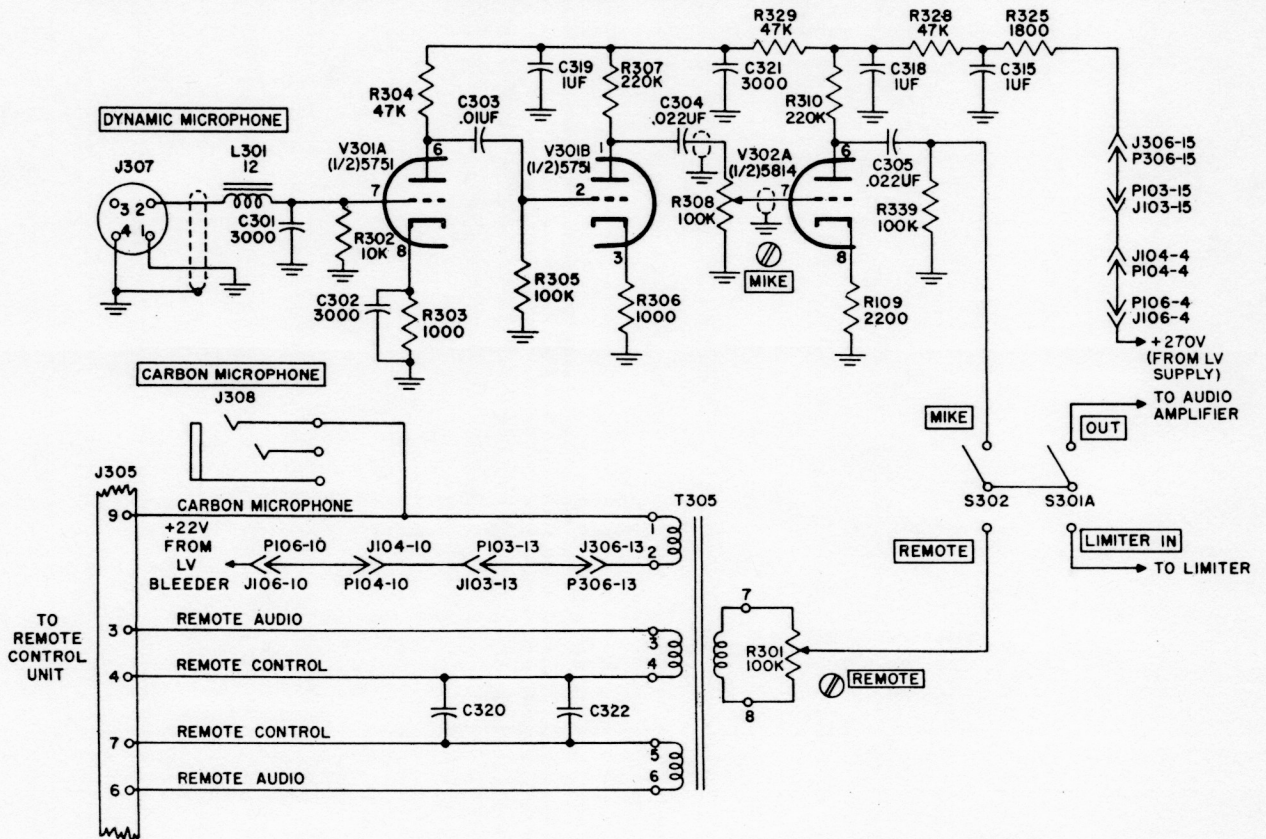

Figure 4-7. Audio Input Circuits and Audio Preamplifier, Simplified Schematic Diagram
a. AUDIO INPUT CIRCUITS. (Refer to figure 4-7.)
(1) DYNAMIC MICROPHONE. - The dynamic microphone is connected to the Modulator
(2) TELEPHONE LINES. - A pair of 600 ohm telephone lines connects the remote audio signals to two of the three primary windings of audio input transformer T305 via terminals 3 and 6 of jack J305. The lines are isolated for d-c at the transformer by capacitors C320 and C322. Thus, each line may be used to carry a discrete d-c control signal in addition to the audio signals. The secondary of T305 is connected across the REMOTE potentiometer, R301. The potentiometer control arm is available as a screwdriver adjustment on the front of the Modulator Unit chassis. The signal at the arm of R301 is connected to the REMOTE terminal of the MIKE-REMOTE switch, S302.
(3) CARBON MICROPHONE. - The carbon microphone is connected to the modulator via microphone jack J308. The microphone output is applied to the third primary winding of transformer T305. The REMOTE potentiometer, therefore, controls the gain of signals from the carbon microphone as well as from the telephone lines. D-c voltage for the carbon microphone is supplied from the junction of R106 and R109, in the low voltage bleeder. R109 is by-passed for audio by capacitor C109.
b. AUDIO PREAMPLIFIER. - (Refer to figure 4-7.) The audio output of the dynamic microphone is applied to the grid of amplifier V301A, 1/2 of a 5751. C302, in the cathode circuit, and C321, in the plate circuit, serve to bypass any r-f voltages to ground. The plate of V301A is coupled to the grid of amplifier V301B by capacitor C303. V301B is coupled to MIKE potentiometer R308 by capacitor C304. The potentiometer control arm is available as a screwdriver adjustment on the front of the Modulator Unit chassis. The output of the potentiometer is applied to the grid of amplifier V302A, 1/2 of a 5814. The output of V302A is applied to the MIKE terminal of switch S302 via capacitor C304.